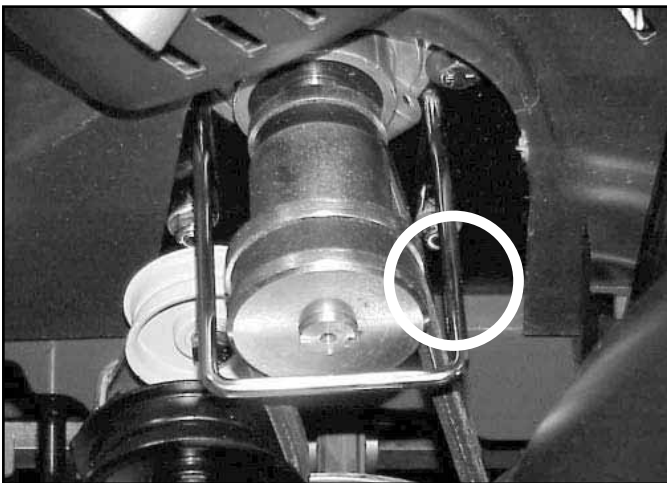

Fig 067
5. Check for proper clearance between the belt and belt guide. Engage the auger belt and look between the belt and belt guide on the left side. There should be about 1/8" (3.2mm) gap (Fig. 067). Tighten the belt guide mounting bolts.